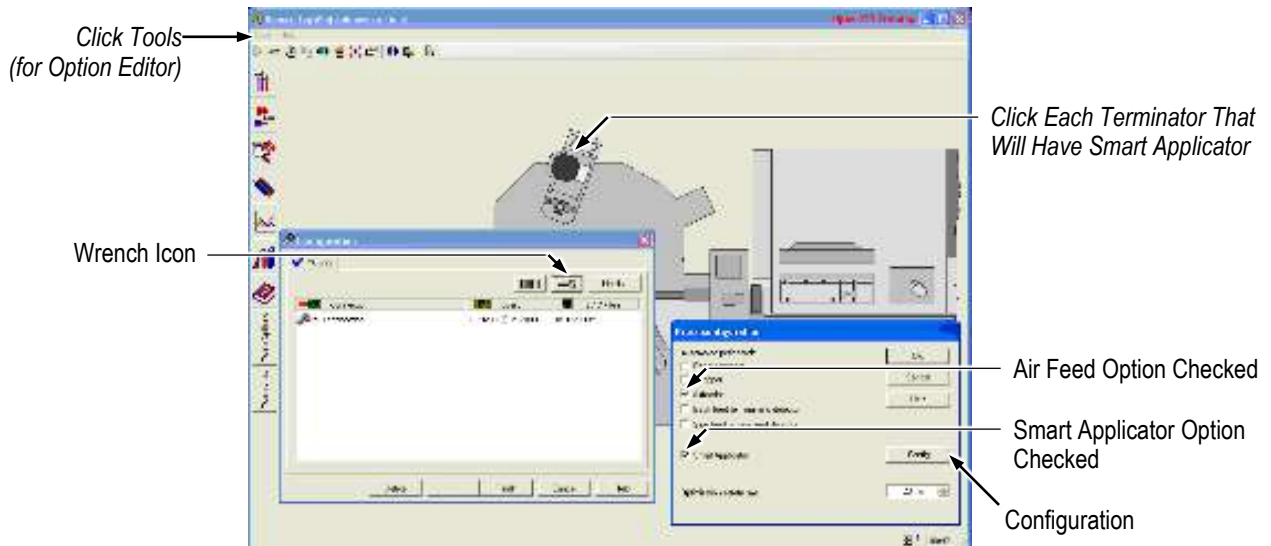

Figure 15
- Under “Tools”, click “Option Editor” (it may take time for the “Option Editor” to appear). See Figure 15.
- Click each terminator that will have a smart applicator to display the Terminator Configuration screen. See Figure 15.